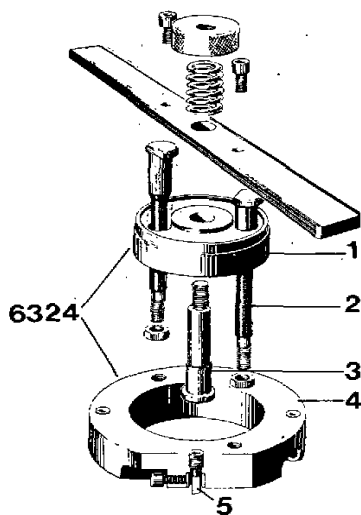

Fig. 43. Milling tool 6324, 70 series
3. Locate both the guide pins in the valve guides and tighten the guide plate (1 fig. 43) with the spindle (3) on the cylinder head. The plate should be placed so that it is centred between the holes for the cylinder head bolts. The hole marked "IN" on the guide plate should always be placed **above the guide of the inlet valve** (the largest valve seat).